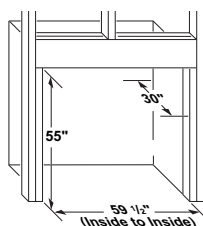

Figure 6a
1. Frame in rough opening. Firebox framing should be constructed of 2 x 4 lumber or heavier. Use dimensions and rough opening layout in Figure 6a. Adjust framing so that firebox flushes with finished wall surface. If installing in a corner, use dimensions in Figures 6b for rough opening.